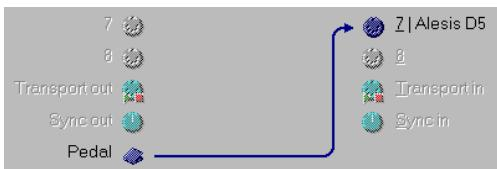

Figure 7-21: Routing the pedal output to a device.
- 1 Route the Pedal icon in the MIDI Routing window to the desired output(s) (as demonstrated in Figure 7-21 on page 67).